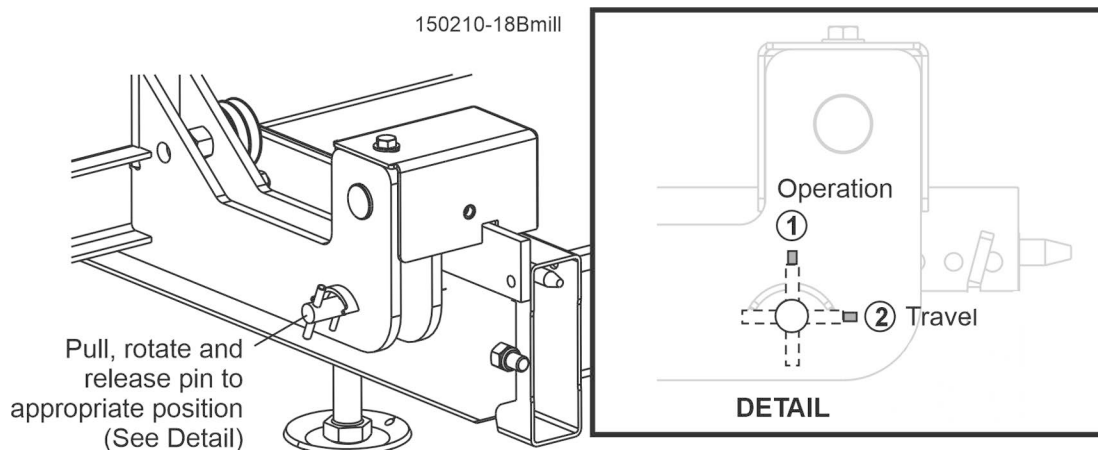

FIG. 3-6
- 3). The other pin should remain in the operation position to prevent the saw head from tilting. See FIG. 3-6.